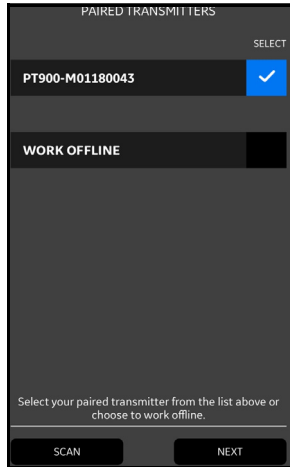

Figure 70: Paired Transmitters List
- Click the **BACK** button on the tablet to return to the PT900 APP main menu. Then, select your PT900 transmitter in the **TRANSMITTERS PAIRED** list and click **NEXT** to open the *Main Menu*. For example, the **PT900-M09160025** transmitter is selected from the list in *Figure 70* below.
- Note:** *If desired, you may simulate the APP operation without connecting to the transmitter. To do so, click the **WORK OFFLINE** option in Figure 70 above.*